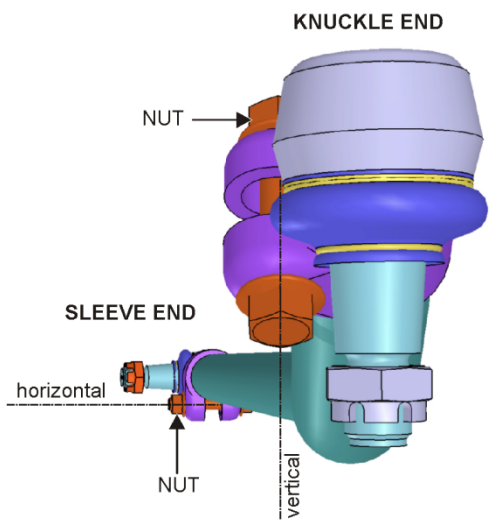

FIGURE 13: NOTE THE HORIZONTAL ORIENTATION OF THE CLAMP BOLT AT THE SLEEVE END AND ON WHICH SIDE THE NUT MUST BE POSITIONED
- 16. Once the proper length adjustment is done, tighten the adjustment sleeve clamp. To prevent interference between the ball joint clamp bolts with other components of the steering system, the clamp bolt must be positioned horizontally as shown on FIGURE 13. **Tighten the clamp nut to 118-133 lbf-ft.**